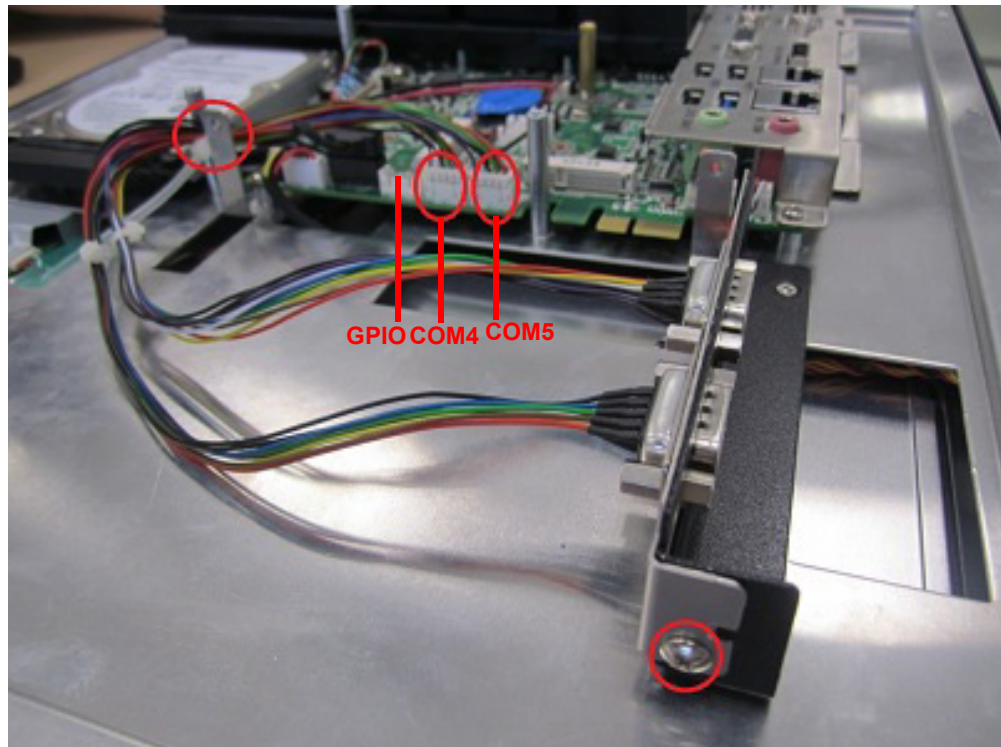

**Figure 2.55**
3. Remove the two COM connectors from the module case and affix them to the expansion slot shield (as shown in Fig. 2.55).